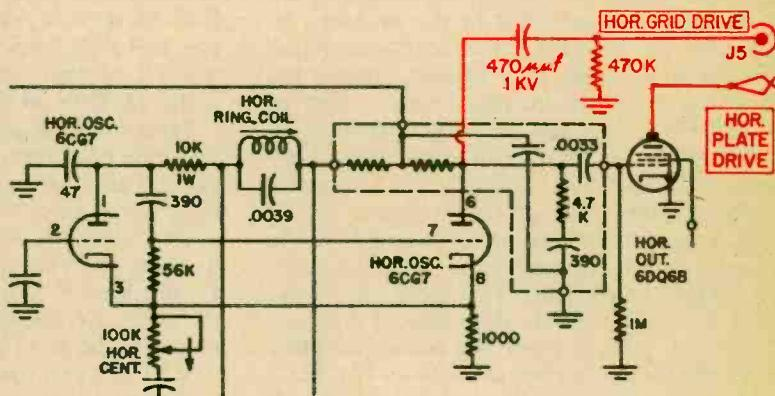

Fig. 5—Part of Philco schematic (black) shows horizontal-oscillator and output stages. Added parts (on test panel) are shown here in color.
5. **Horizontal grid output (Fig. 5).** This signal narrows the source of trouble down to either the horizontal-phase or the horizontal output if there is no high voltage.
6. **Horizontal plate output (Fig. 5).** This signal answers the question "is a no-high-voltage symptom in the flyback/yoke area?"